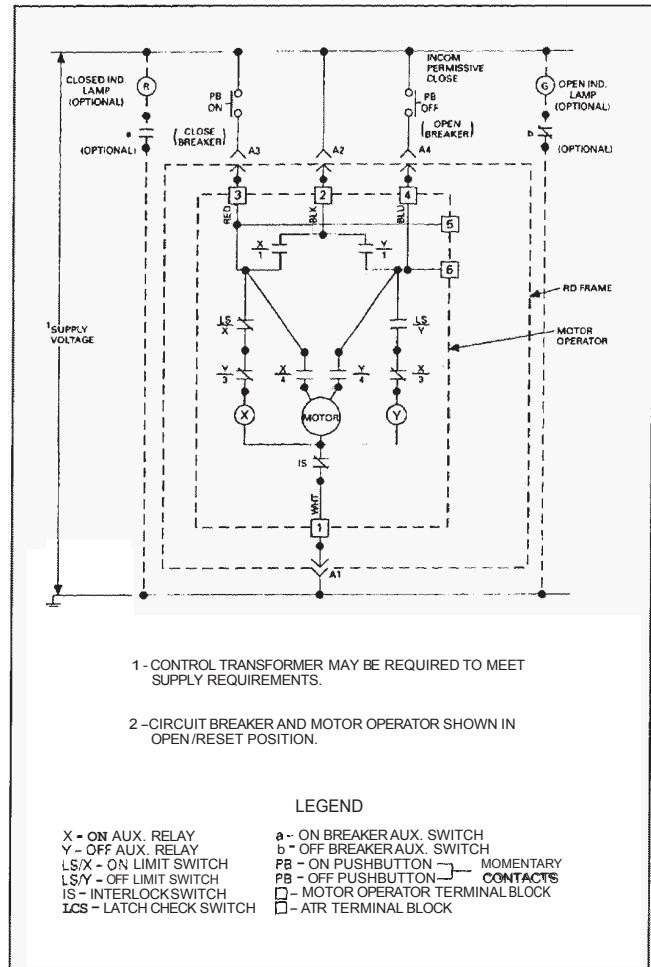

Fig. 2-3. Motor Operator Wiring Diagram
- 2.11. Slide the mode selector lever to the left to expose the terminal block. Connect the power and control wiring per Fig. 2-3. Ensure that wiring is clear of moving parts and cover mounting screws.